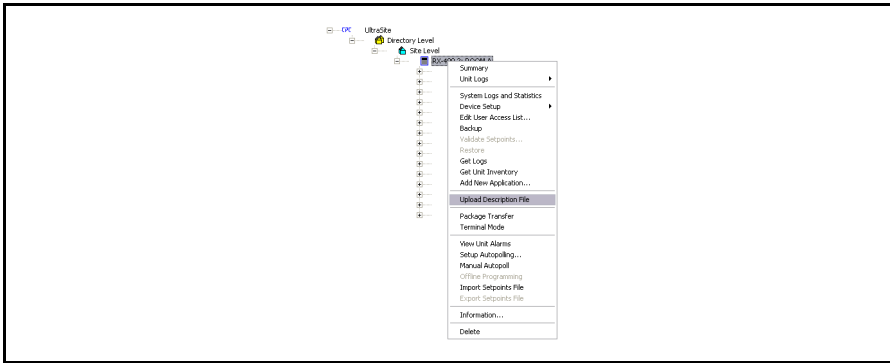

Figure 4-1 - Upload Description File
2. Expand UltraSite to view **Directory Level** and **Site Level** see *Figure 4-1*.